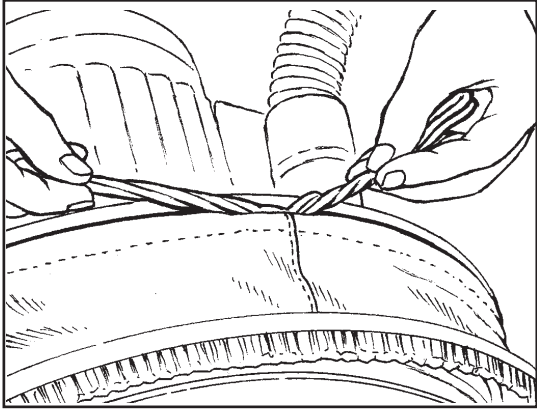
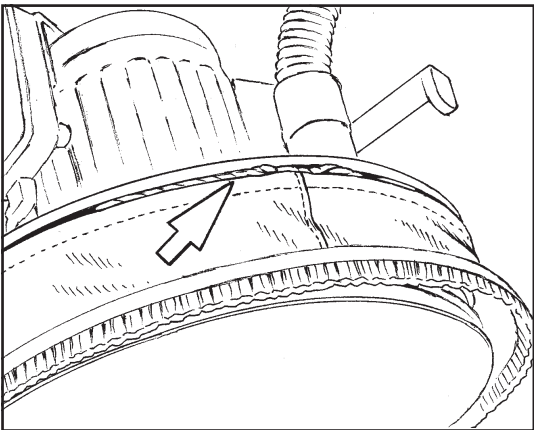

Figure 7
Figure 8
1. Wrap the skirt around the bumper such that the draw string can be inserted into the recess of the bumper. See figure 7.
4. Twist the ends of the string (see figure 7) and insert them into the recess of the bumper as shown in figure 8.